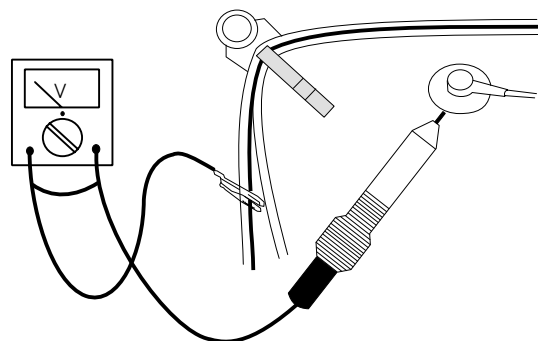

Fig.1
1. Remove the rear cover in Fig. 1.